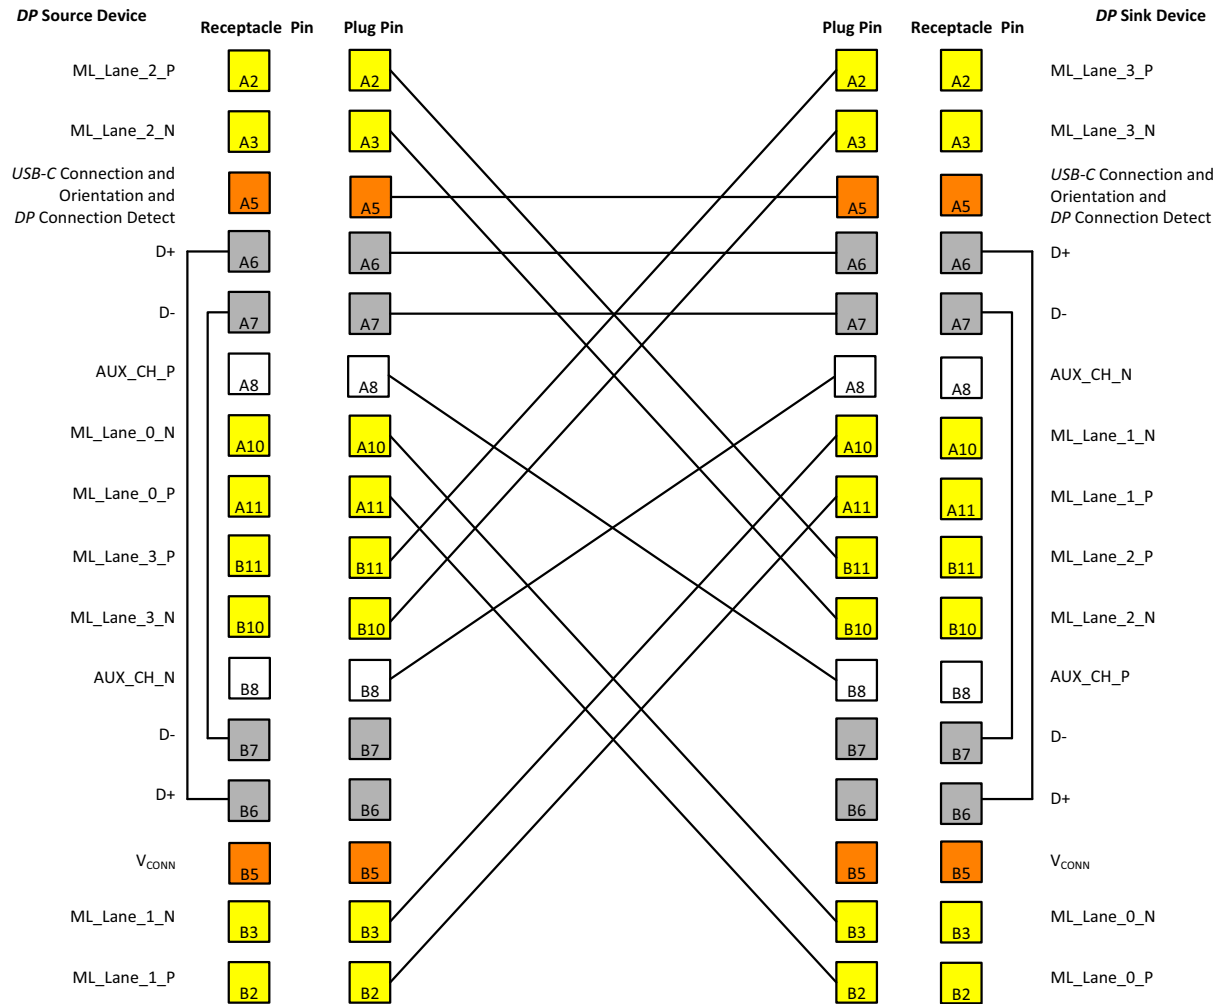
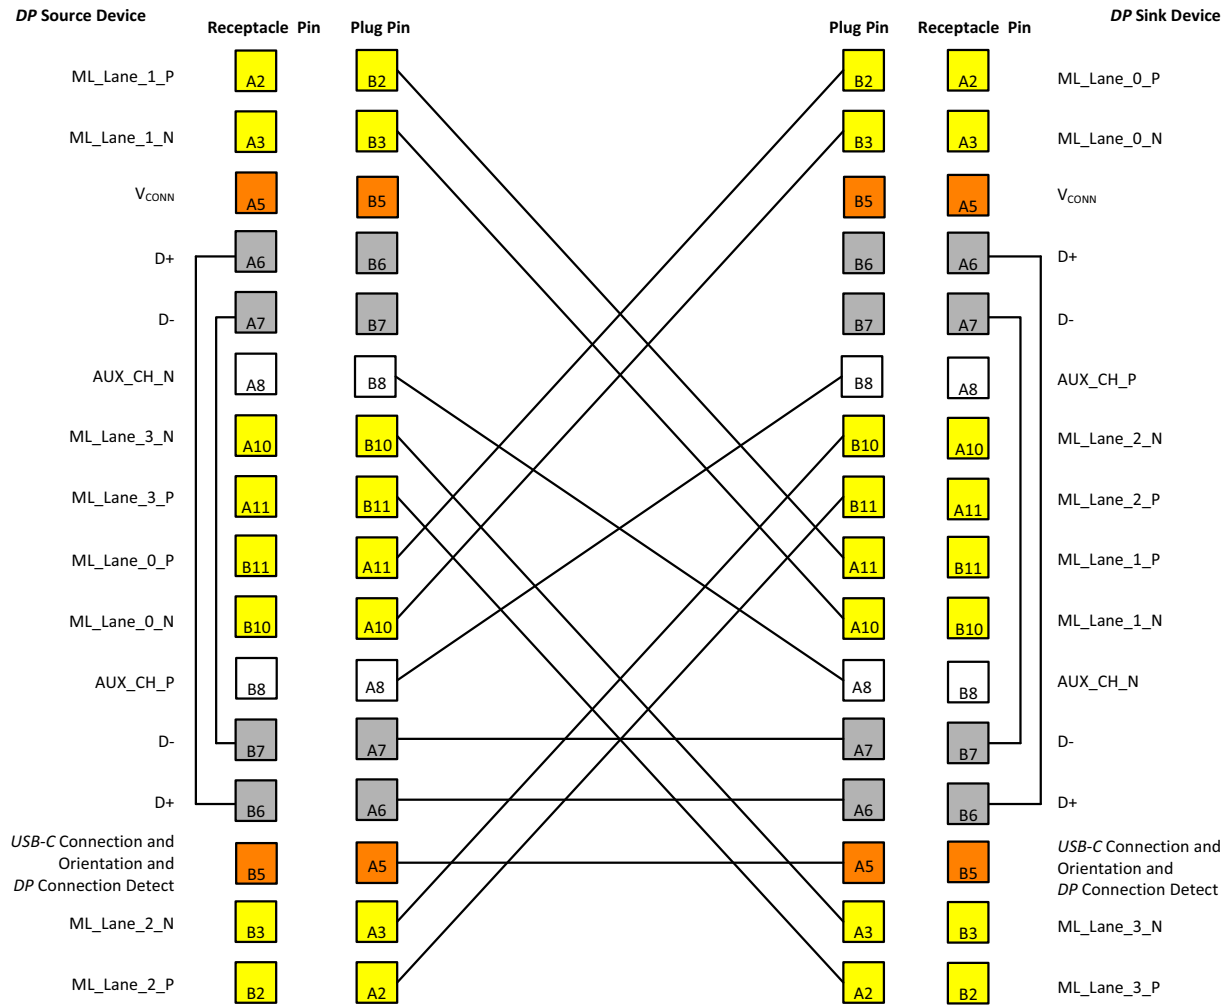

Figure 4-2: Scenario 1 Cable Wiring – Normal Plug Orientation
Figure 4-5: Scenario 1 Cable Wiring – DP Source and Sink Device Flipped Plug Orientation
- Figure 4-2 illustrates when the plugs at both ends are inserted in normal orientation
- Figure 4-5 illustrates when the plugs at both ends are flipped
The signal connections for a USB-C connector-to-USB-C connector active cable assembly shall be as defined in *Figure 4-2* through *Figure 4-5*. Both *DP* (4-, 2-, and 1-lane) and multi-function (one or two *DP* lanes and one *USB* SuperSpeed lane) shall be supported.